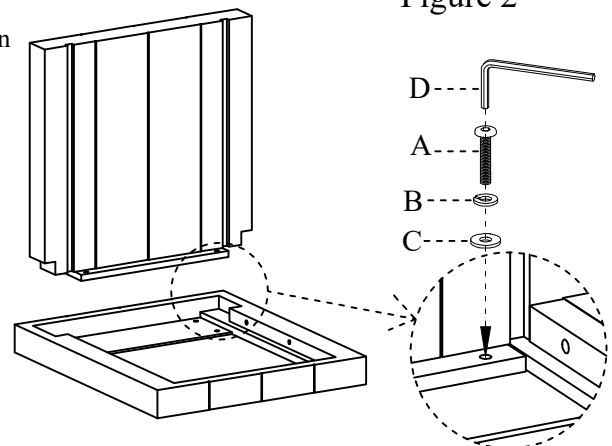

Figure 2
3. Attach the Back panel to the Table top using Bolt (A), Lock Washer (B) and Flat Washer (C) and tighten with the Allen Wrench (D).As Shown in Figure 2.